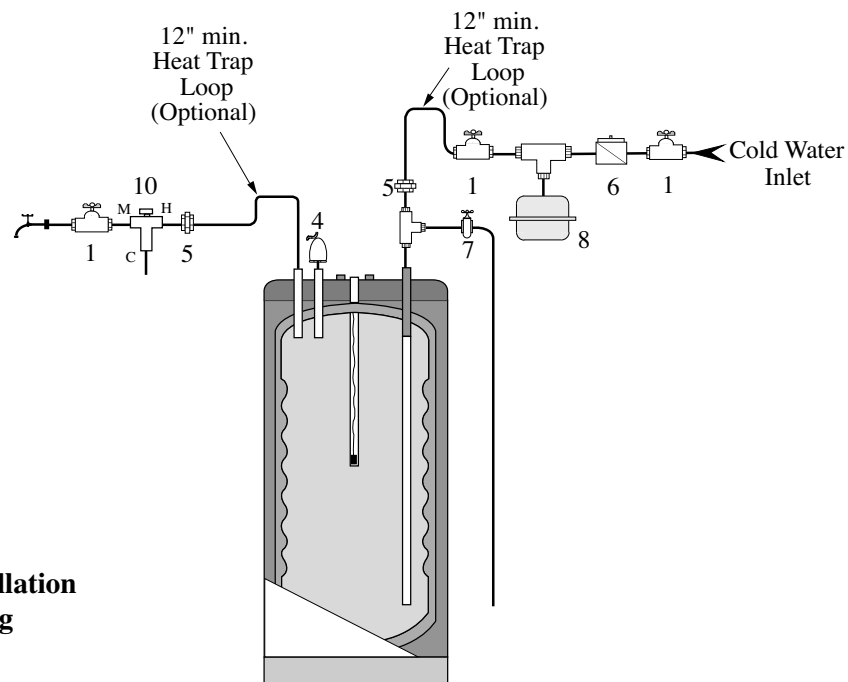
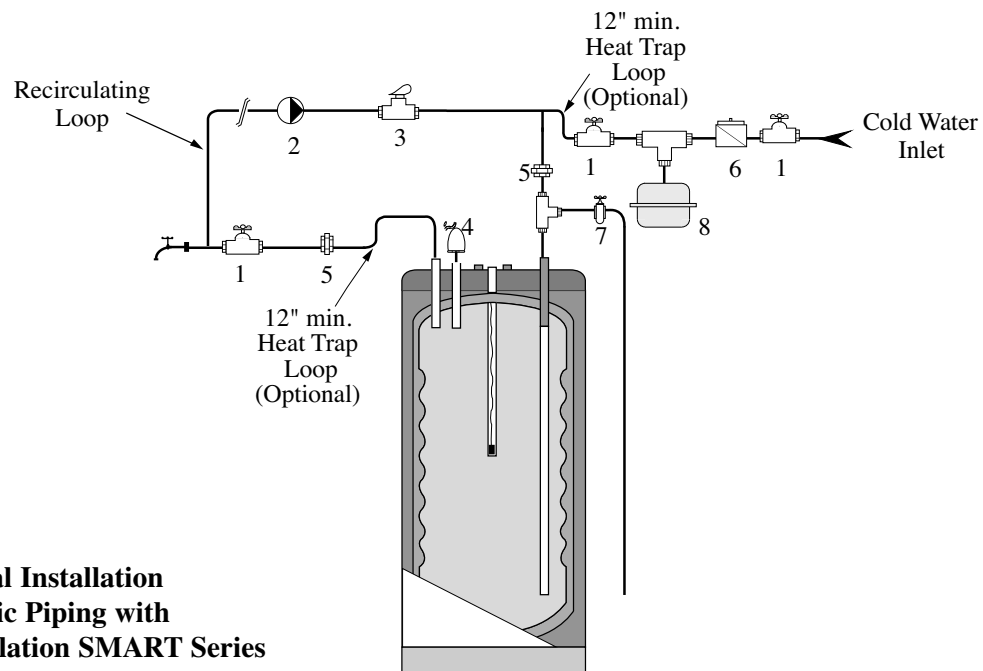

Fig. 1: Standard Installation Domestic Piping SMART Series
Fig. 3: Optional Installation Domestic Piping with Recirculation SMART Series
- Install a tee connection at the domestic cold water inlet (Fig. 1 and 2 page 8 and Fig. 3 on page 9).